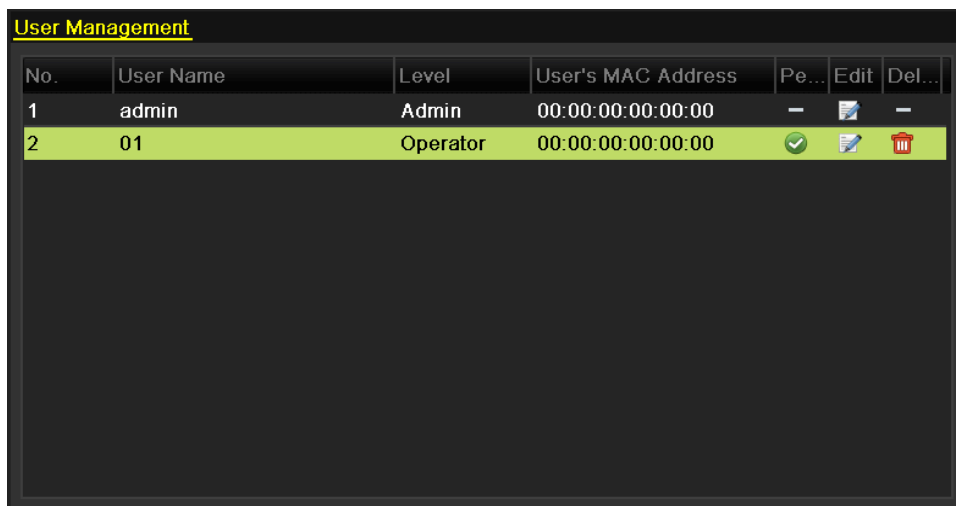

Figure 1. 2 Added User Listed in User Management Interface
- Click **OK** to save the settings and go back to the User Management interface. The added new user will be displayed on the list, as shown in Figure 1. 2.